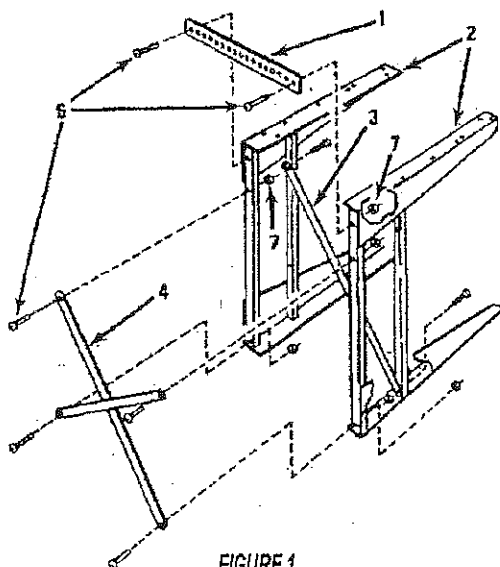

FIGURE 1
1. Attach one end of dryer stand bracket (1) to the upper hole of one of the stand bases (2) using one screw (6), and a lock nut (7). Attach the other end of the bracket to the upper hole of the other stand base (2) in the same way. Make sure screws are inserted from back of stand and lock nuts are inside the stand assembly, as shown in Figure 1.
2. Attach diagonal brace (3) to the front upright (brace must run from lower left to upper right when facing the stand from the front of the stand) using two screws (6) and two lock nuts (7). Insert screws from the front of the stand so that nuts are on the inner part of the stand. Tighten nuts hand tight. Check with Figures 1, 2 & 3.